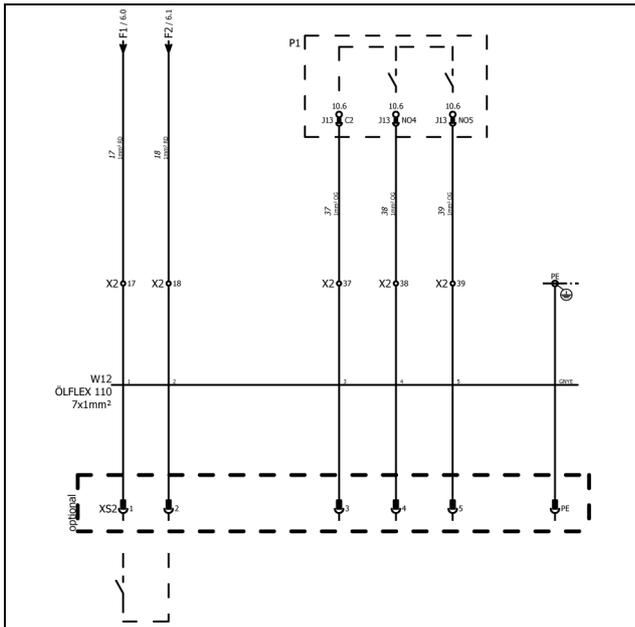

Fig. 30: System message
- Connect the correspondingly labelled wires of the connection cable to the controller as shown in the electrical circuit diagram (fig. 30).